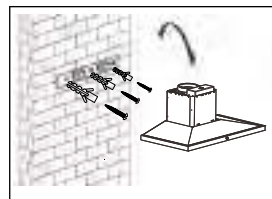

Fig. 7
Wall mounting (Fig. 7 & 8 & 9)
- Before attaching hood body to wall, adjust the 3 (three) screws located on the hood body mounting points. (Fig.7)
- Fix the hood body to wall using 2(two) ST4 x 30 screws provided. Tighten screws firmly. (Optional lock for E point) (Fig. 7).